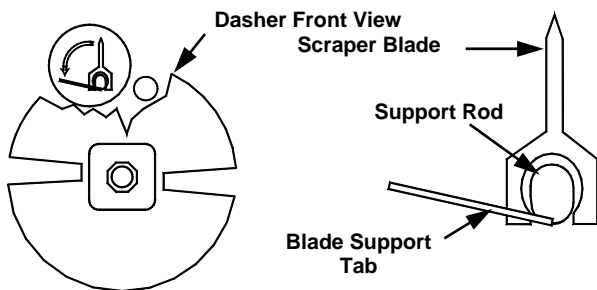
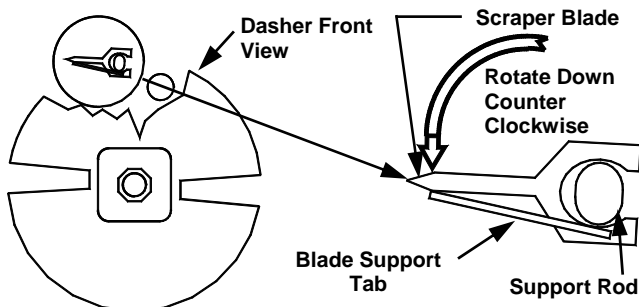

Fig. 26
Fig. 27
- f. Install the scraper blades onto the dasher assembly by holding the blades perpendicular to the tabs (Fig. 26) and then snapping them over the flat area of the support rod. Then rotate the blades downward in a counterclockwise direction as viewed from the front of the dasher (Fig. 27). **BE CERTAIN THAT THE SCRAPER BLADES REST UPON THE DASHER TABS.**